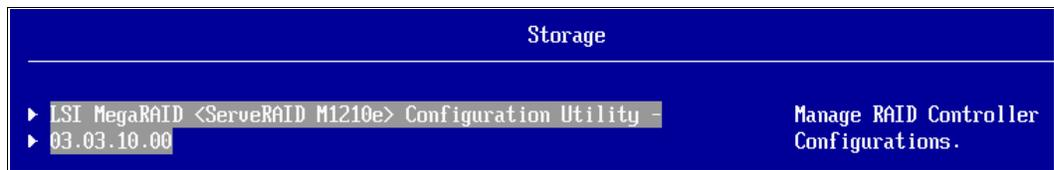

Figure 5-18 Launching the MegaRAID Configuration Utility for the ServeRAID M1210e
1. Enter UEFI setup by selecting **F1** when prompted at boot time. Access the LSI Configuration Utility from the menu by selecting **System Settings** → **Storage** → **LSI MegaRAID <ServeRAID M1201e> Configuration Utility**, as shown in Figure 5-18.